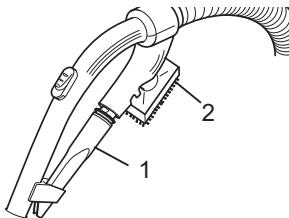

Fig. 5
■ The crevice nozzle and the 2-in-1 combi-nozzle are included as **accessories** in the scope of delivery. They can be secured to the accessories mount (Fig. 5) when not in use.
- **Crevice nozzle (Fig. 5/1)**
- **2-in-1 combi-nozzle (Fig. 5/2)** to be used as: